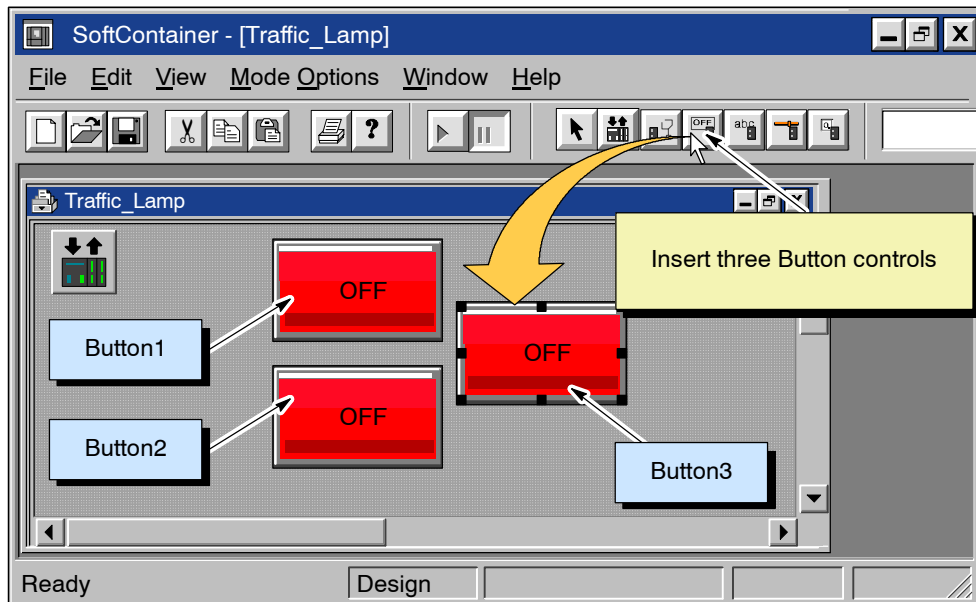

Figure 3-11 Inserting SIMATIC Button Controls
2. As shown in Figure 3-11, insert three Button controls onto the process form: